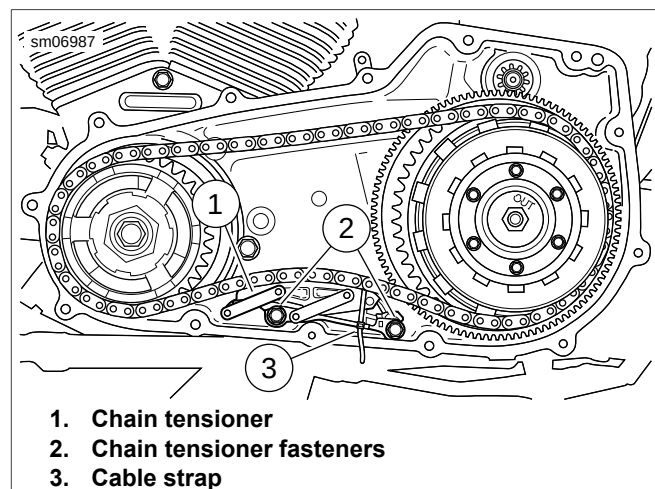

Figure 5-18. Chain Tensioner
18. See Figure 5-18. Install primary chain tensioner (1). Install chain tensioner fasteners (2) and tighten to 21-24 ft-lbs (28.5-32.6 Nm). Remove cable strap.